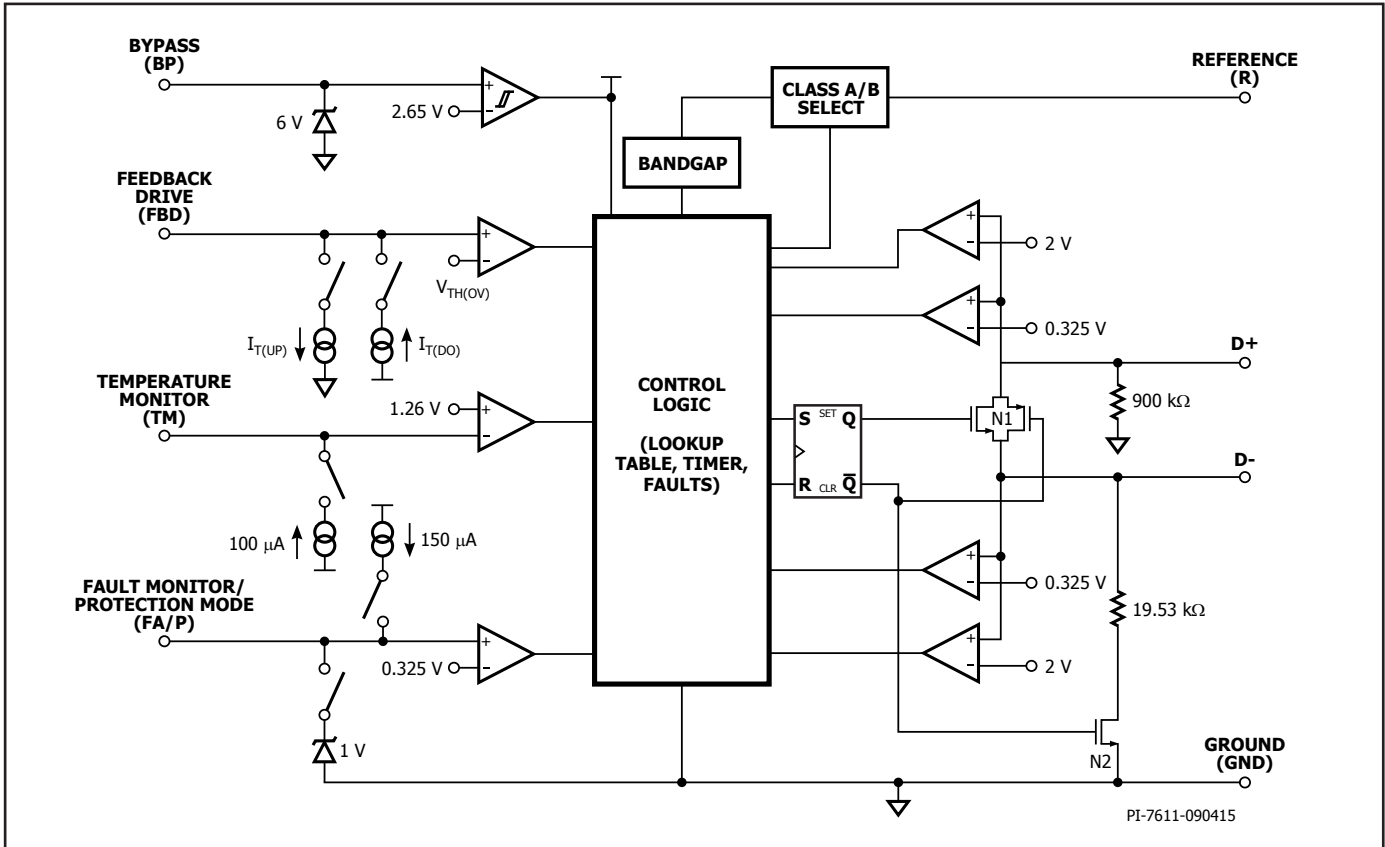

Figure 3. Functional Block Diagram.
At power-up CHY103 turns on switch N1 (see Figure 3) short-circuiting USB data lines D+ and D- for the initial handshake between AC-DC adapter (DCP) and powered device (PD) as described in the USB Battery Charging specification revision 1.2. After the USB BC 1.2 handshake is completed, CHY103 will turn off switch N1 if it detects a Quick Charge 3.0 or Quick Charge 2.0 compliant PD. At this point the Quick Charge 2.0 handshake followed by the Quick Charge 3.0 handshake can take place as described in the Quick Charge 2.0 and Quick Charge 3.0 protocol specification. Upon completion of the Quick Charge 2.0 and Quick Charge 3.0 handshakes, CHY103 will turn on switch N2 (see Figure 3) connecting a  $19.53 \text{ k}\Omega$  pull-down resistor to USB data line D-.
When the USB cable is unplugged the voltage level at D+ is pulled down by CHY103's internal resistor (see Figure 3). Once it drops below 0.325 V CHY103 will enter default mode (switch N1 is on, switch N2 is off) and sets the default output voltage of 5 V.